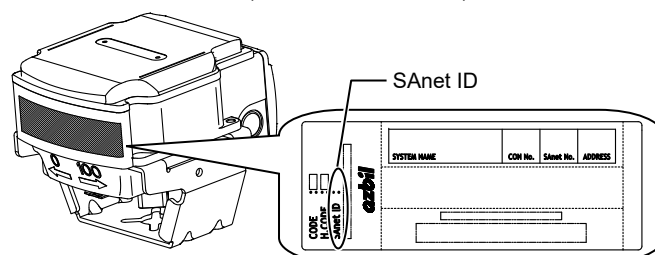

Figure 14. SAnet ID on the product code label
2. With Data Setter or PC-MMI, enter the SAnet ID (on the product code label) and address number to set. The product code label is attached on the side surface of the actuator, as shown in Fig. 14.